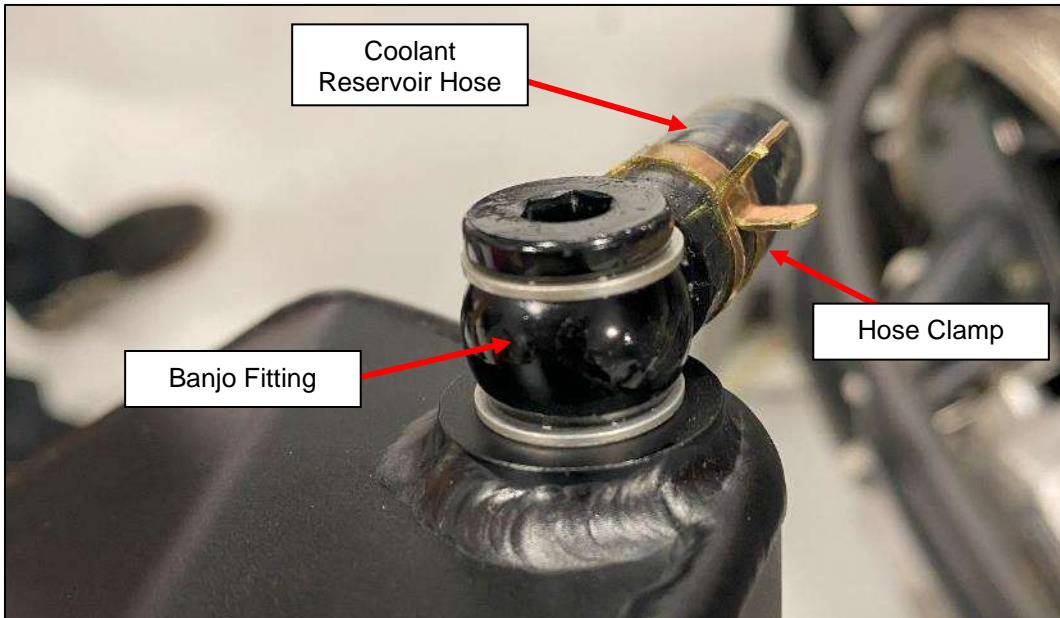

Figure 64
6. Locate the 350Z Coolant Reservoir Hose (#70) and (2) two Hose Clamps (#31). Position a Hose Clamp on each end of the Reservoir Hose.
7. Attach one end of the Coolant Reservoir Hose to the Banjo Fitting on the Coolant Overflow Tank installed in Step 5. Secure the Hose with the Hose Clamp. *Figure 64.*